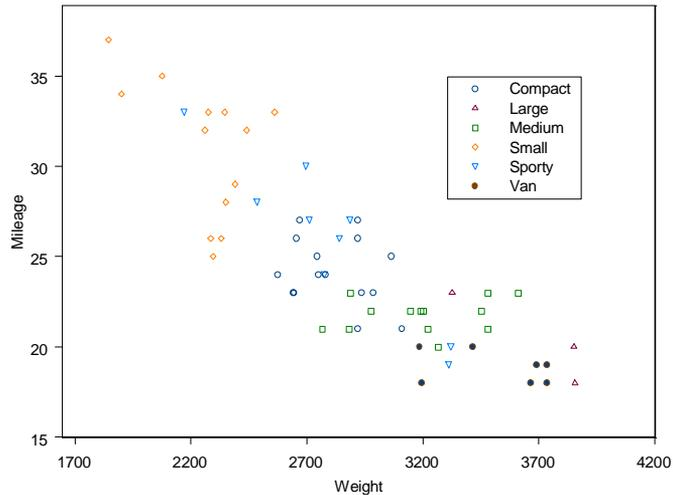

Figure 3.29: Color plot of Mileage by Weight with color and symbol style varying by Type for the fuel.frame data.
3. Click **OK**. (You can change the defaults for symbol styles and colors; see Chapter 11, Customizing Your S-PLUS Session, for more information.) Figure 3.29 displays the resulting color and symbol plot.